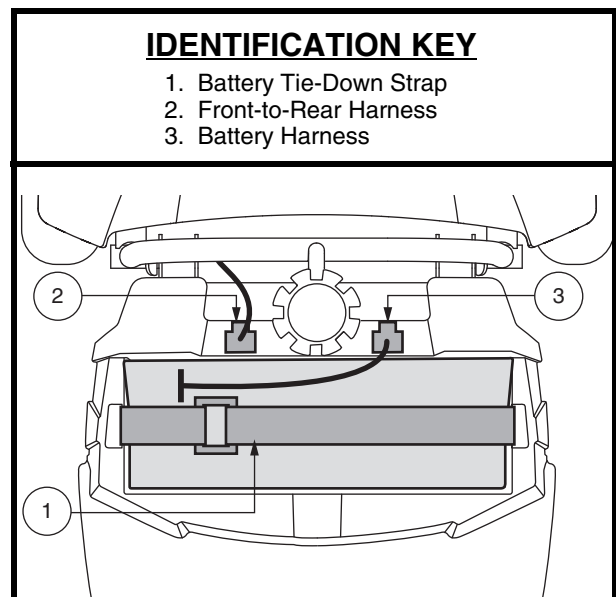

Figure 16. Battery Tie-down Strap
1. Disconnect the battery harness and remove the battery pack from the Travel Scooter. See figure 16.
2. Disconnect the battery harnesses and tie-down strap then remove the battery pack from the Travel Scooter. See figure 16.